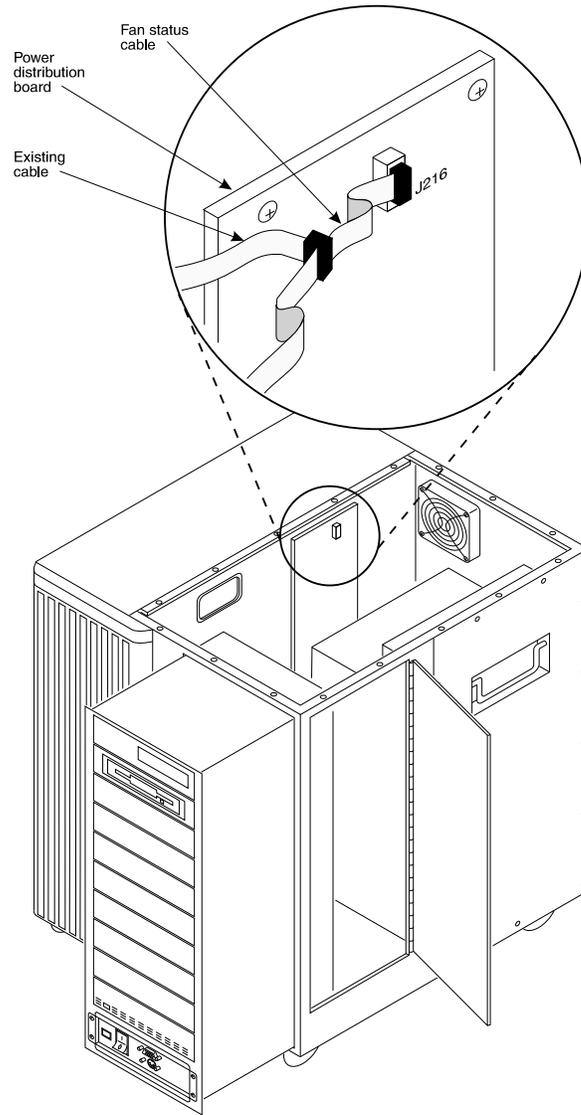

Figure 4-5. Fan Status Cable
12. Assemble the RM card fan status cable to the power distribution panel as shown in Figure 4-5. Disconnect the cable (P216) from position J216; plug the RM card fan status connector into the mating connector of the RM card fan status cable (refer to Figure 4-5). Dress this cable with the cables already described.